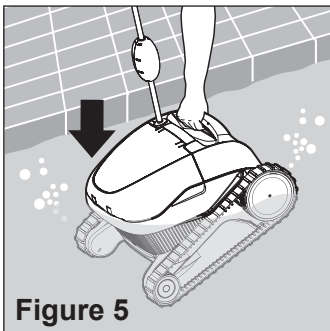

Figure 5
2. Lower the Prowler® 910 Robotic Pool Cleaner into the pool by the handle (see **Figure 5**).